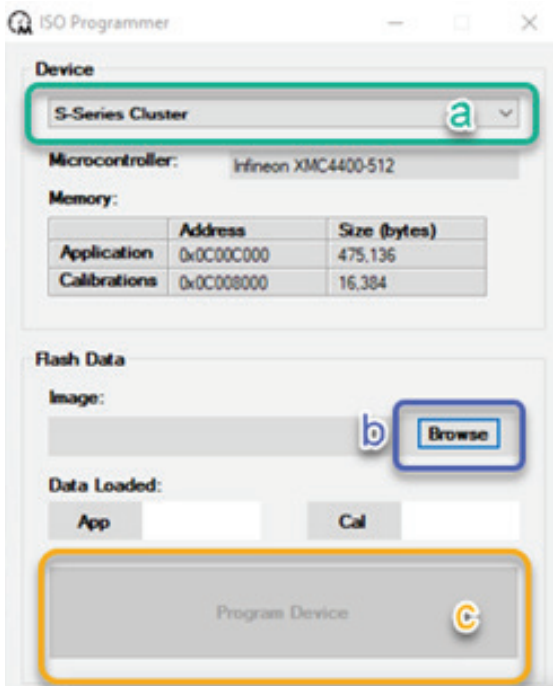

Figure 6
- a. Select S-Series Cluster from the Device drop down menu. See Figure 6.
- b. Select Browse button in the Flash Data portion of ISO Programmer window. See Figure 6. Browse to location where updated cluster software hex file from engineering is saved on the laptop.
- c. Click the Program Device button at the bottom of the ISO Programmer window. See Figure 6.